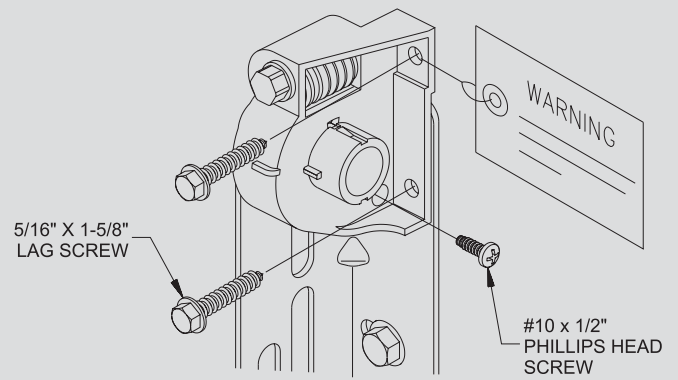

Fig. 4-5
Apply lubricant to the entire circumference of the drive gear. Align the splines of the drive gear with the right hand winding shaft and press the gear on until seated against the flagangle (Fig 4-4). Slide the right hand end bracket over the drive gear and fasten to the flagangle using a #10 x 1/2" phillips head screw. Attach the end bracket to the jamb using (2) 5/16" x 1-5/8" lag screws (Fig. 4-5).
Slide the left hand end bracket over the winding shaft and fasten to the flagangle using a #10 x 1/2" phillips head screw. Attach the end bracket to the jamb using (2) 5/16" x 1-5/8" lag screws (Fig. 4-5). No drive gear is required for the left hand side. If converting from a double spring to single spring system, remove the winding bolt head, flanged bearing, worm gear and lock nut from the left hand end bracket assembly. These components are not required and can be discarded.